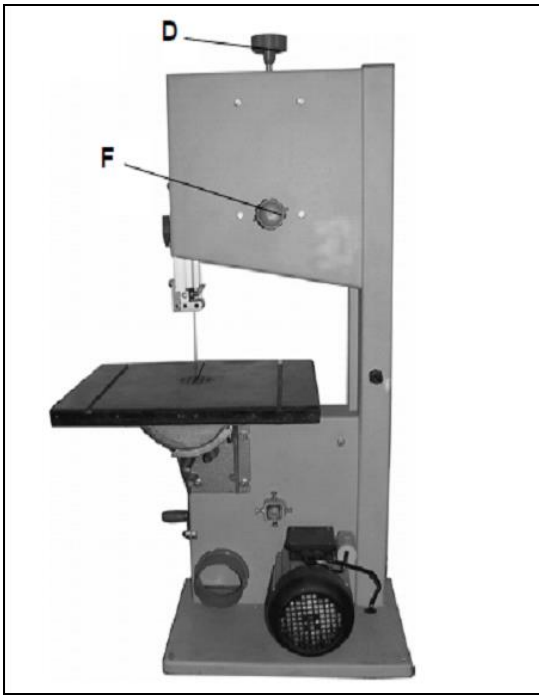

Fig 22
8. If required adjust the tracking using tracking knob and lock knob (F, Fig 22) to the rear of the upper bandwheel housing. When the tracking is correct lock the setting.
With the knob on the back of the machine (F, Fig 22) the blade tracking can be adjusted.